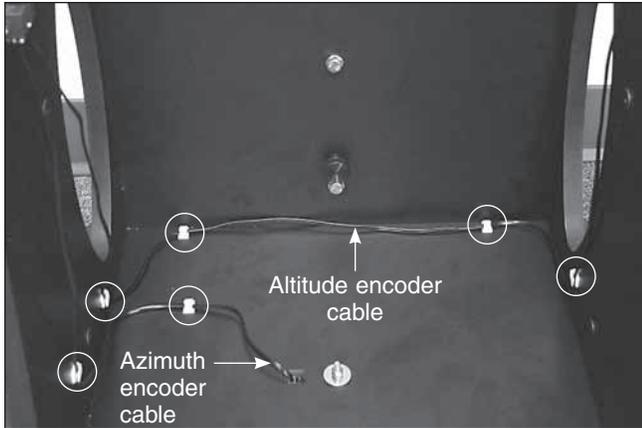

Figure 13. Use the wire clips to secure the cables neatly to the base.
21. Use the wire clips provided with the IntelliScope kit to secure the altitude and azimuth cables neatly to the base. We recommend using two clips for the (shorter) azimuth cable, and four clips for the (longer) altitude cable (Figure 13). The clips have adhesive backing; simply peel the paper off the back of the clip and press the adhesive back to the base where you want the clip to be located.